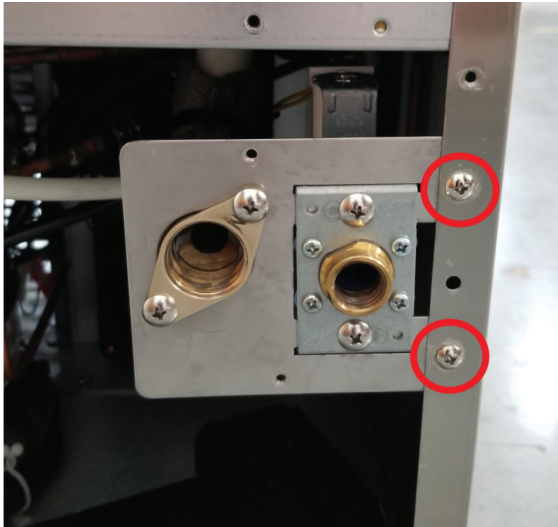

Figure 3
6. Remove the two screws connecting the water supply and drain bracket to the cabinet (Figure 3).